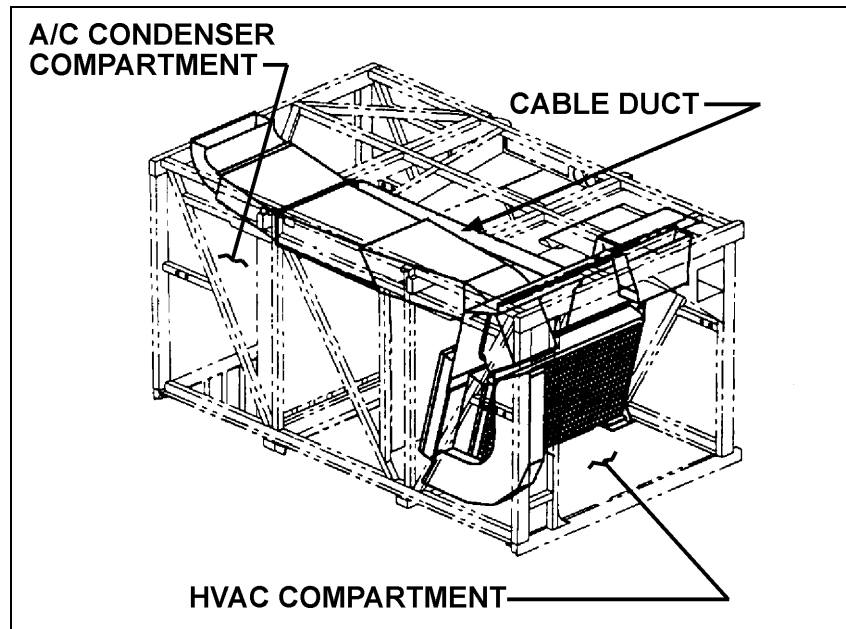

FIGURE 6 : CABLE DUCT
5. Starting from A/C condenser compartment, route cable assembly (Prévoist #064772) through cuff end bellows then through cable duct located between A/C condenser compartment and HVAC compartment (refer to fig. 6). Connect two pins of cable assembly with C136 connector inside A/C condenser compartment and connect cable assembly C151 connector with connector that was previously temporarily fixed (not used if the vehicle was not equipped with a thermostat), also connect cable assembly C550 connector with new thermostat located inside HVAC compartment. Secure cable assembly using cable ties.